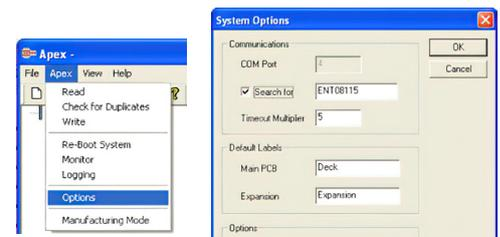

Fig 7
2. Choose: 'Apex' > 'Read'. Check the 'Search for ENT08115' check box and click 'OK' [Fig. 7] .